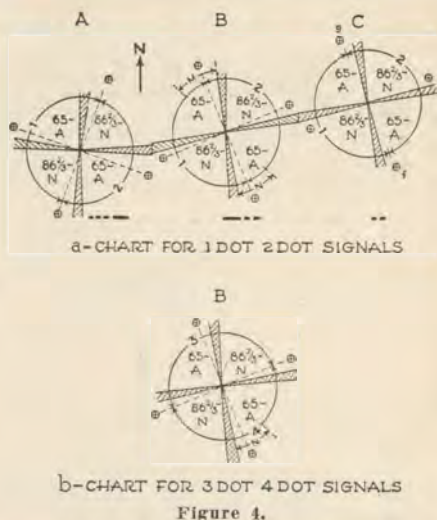

Figure 4.
the compass, it is only necessary to illustrate the direction of transmission of the coded identification signal on the pilot's chart of each beacon which he should have at hand to give him all the necessary information. Such a chart illustrating the application of this method to three beacons, designated as A, B, and C, respectively, is shown in figure 4. Here the Nos. 1, 2, 3, and 4 indicate the sectors where the dot signal of that number may be heard. The small circled crosses represent the lay-out of the four antennas, differently located with respect to the points of the compass in each case. Now, assume a pilot to be lost. From the beacon identification letter which, let us say is (D) — . . ., he finds he is receiving the "B" radio range beacon. He also finds from his beacon course signal that he is in an A or 65-cycle quadrant. When the 1-dot and 2-dot quadrant and course cardioid identification are heard, see figure 4, at a, assume that the 1-dot and 2-dot signals are somewhere near equal in intensity; the pilot is either in the region M northwest of the beacon or in the region N southeast of the beacon. When the 3-dot and 4-dot signals are heard, figure 4 at b, the 3 dots are inaudible while the 4 dots are very loud. This immediately places the pilot definitely somewhere southeast of the "B" beacon, in the region N.